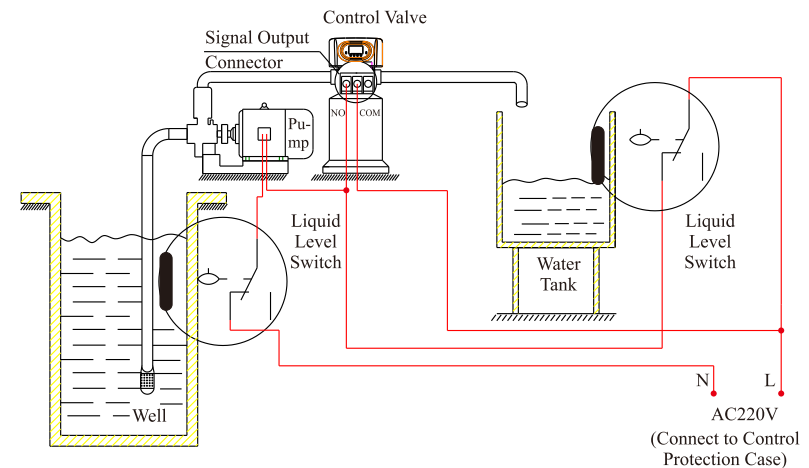

Figure 3-5 Wiring of Liquid Level Controller Controlling Inlet Pump
**Instruction:** For the system using underground water or middle-tank supplying water, users can turn on and turn off the pump by operating the switch of liquid level controller and control valve. The wiring refers to Figure 3-5: